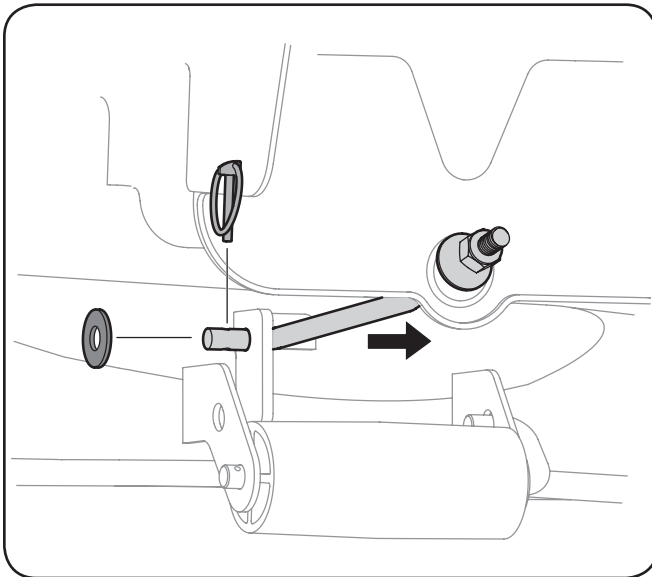

Figure 7-4
9. Remove the cotter pin from the end of the stabilizer rod and slide the stabilizer out of the hanger bracket on the deck. See Figure 7-4.